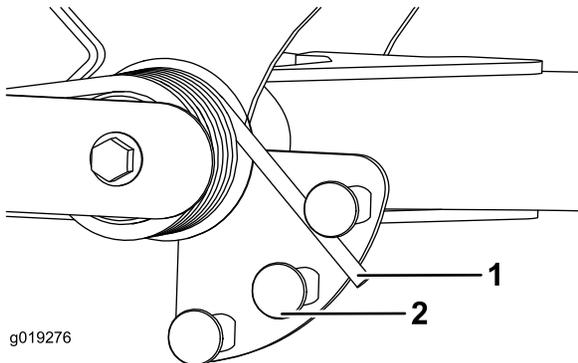

Figure 66
2. Insert a tube or similar object onto the long spring end and pivot it around the spring actuator to the desired position (Figure 66).